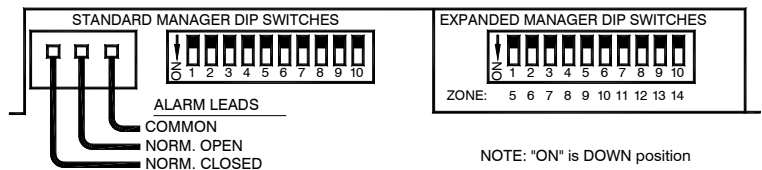

Figure 4B
5. Option switches control energy recovery for extra zone outputs (see Location of Switches: **Figure 4B**)
The Digital Energy Manager features a monitor interface system, which allows the Manager to alert a home security system or other signal light or device when a problem is detected. A three-terminal connector is supplied with each Manager. The wiring detail is shown in Figure 4B. **NOTICE:** Home security systems may require an "abort delay" of one second to avoid a transient signal on Manager power-up. If an abort delay is not available, use Energy Kinetics System Monitor (provided separately part # 10-0168). Alarm contacts are "dry" (no voltage is provided).